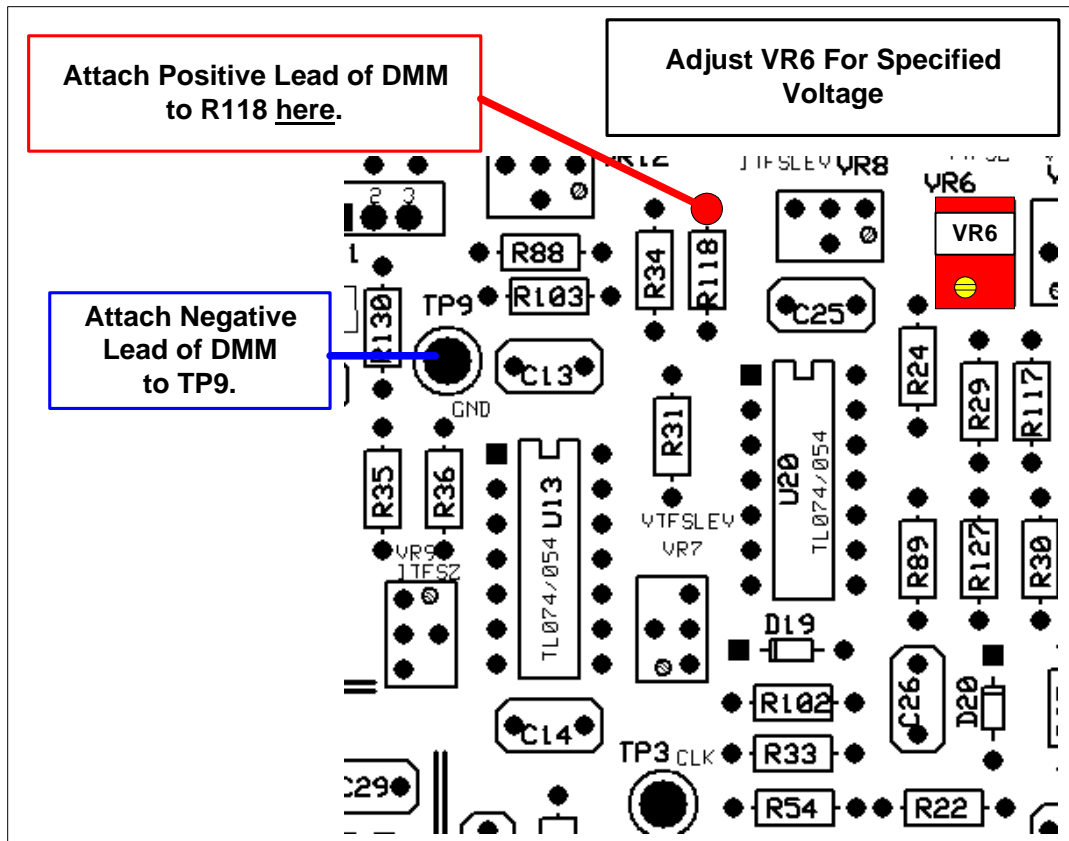

Figure 9-7: Initial Voltage TFS Zero Voltage Calibration
3. Connect the positive lead of the DMM to the end of R118 indicated in **Figure 9-7**.